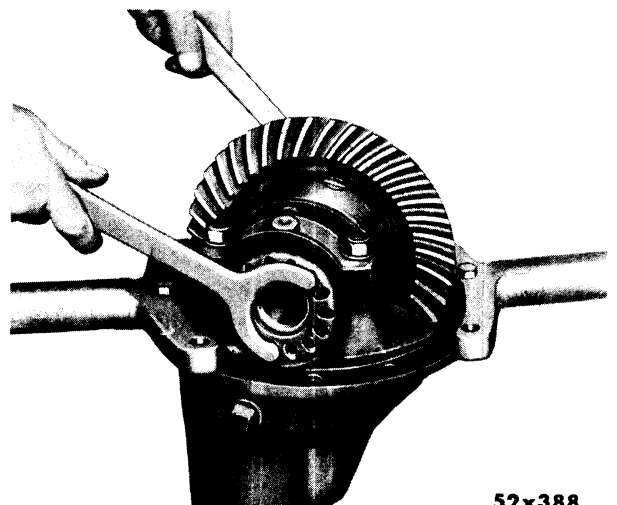

Fig. 44—Adjusting Differential Bearings
- (4) Using spanner wrench Tool C-406, as shown in Figure 44, turn the right-hand bearing adjuster clockwise until considerable backlash exists between the ring gear and the pinion. Back off the adjuster several turns.